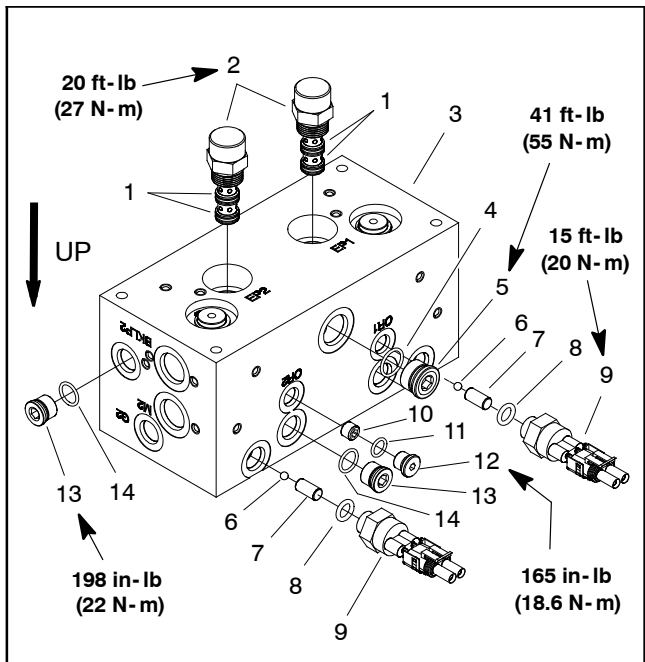

Figure 76
A. Remove backlap switch from mow manifold before removing mow/backlap spool (Fig. 76). Remove dowel pin and ball from manifold port after switch is removed. Remove and discard O-ring from switch.
F. Place ball and dowel pin in backlap switch manifold port (Fig. 76). Install new O-ring onto backlap switch. Thread backlap switch into port and torque **15 ft-lb (20 N-m)**.